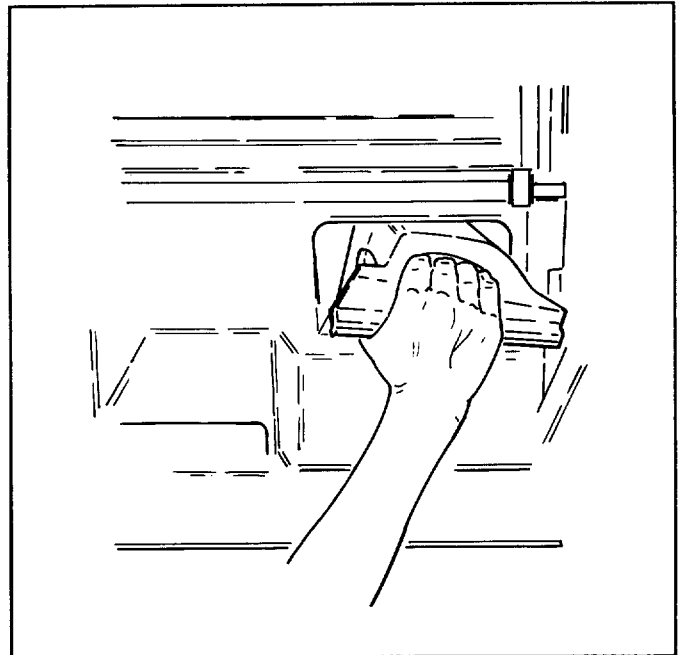

Figure 6
5. Push and rotate the plug all the way into the discharge tunnel until plug is firmly in place (Fig. 6). Slowly lower the discharge door until it closes completely over the plug.